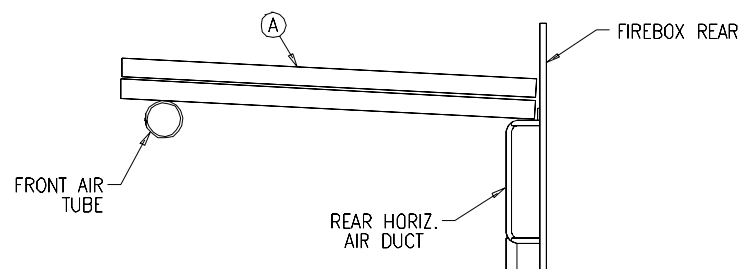

Figure 3.2
1. Install baffle boards (A) above the front secondary air tube and the rear horizontal air duct, one on top of the other with the 9.60" dimension across the front of the stove (see fig 3.2). These should then be pushed over to the extreme left or right side.
Figure 3.2 b